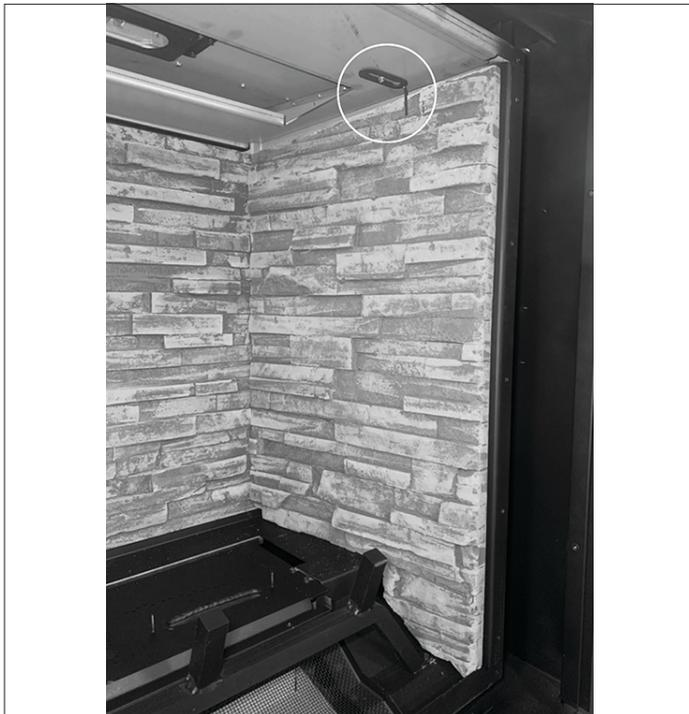

Figure 8.5, Side Refractory Panel Installed
2. Install side refractory panels. Tilt the back of the panel in first then pivot up. Secure with (2) panel clips for each side. See Figure 8.5.